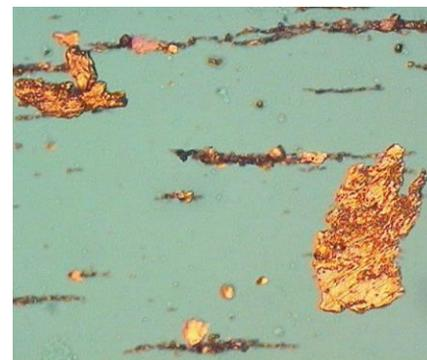

Figure 5 | Ferrogram: fatigue wear, copper flat platelet.
5. **Laminar.** These distinct particle types have been associated with rolling bearing fatigue (see Figure 5). Fatigue spall particles constitute actual removal from the metal surface when a pit or a crack is propagated. They have a smooth surface and a random, irregularly shape circumference. Laminar particles are very thin, free metal particles with an abundance of holes. These particles are formed by the passage of a wear particle through a rolling contact. Laminar particles may be generated throughout the life of a bearing, but at the onset of fatigue spalling, the quantity generated increases.